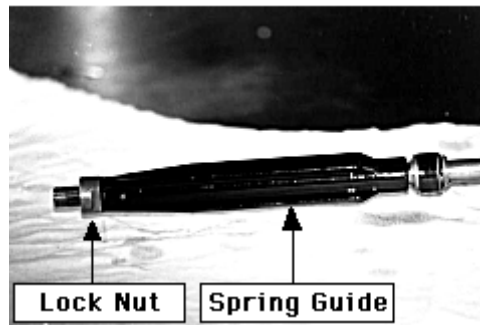

Fig 5
6. Remove the lock nut and spring guide, **fig 5**.